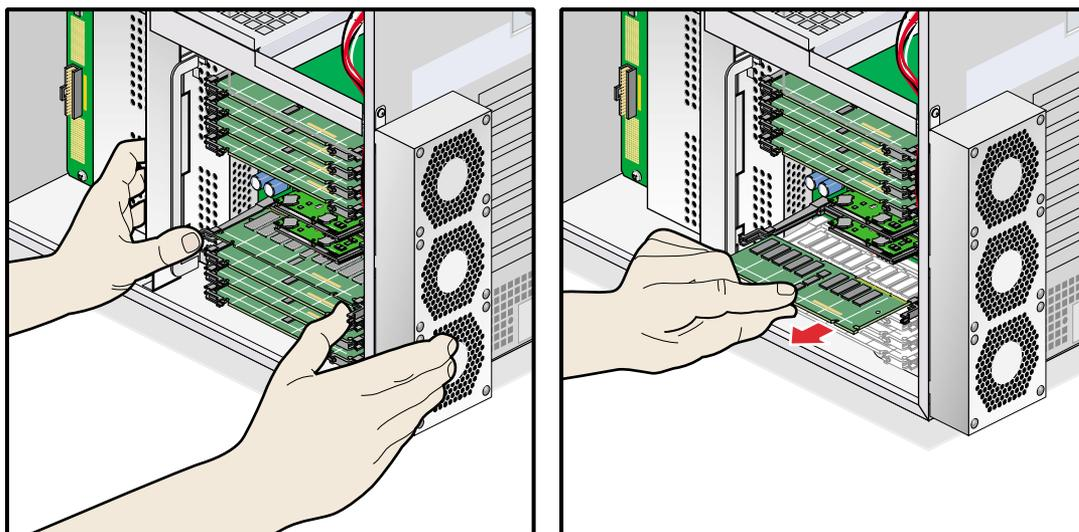

Figure 3-8 Removing a DIMM
2. Pull up on the latches at the end of the DIMM socket (see Figure 3-8). The DIMM will partially eject from the socket.